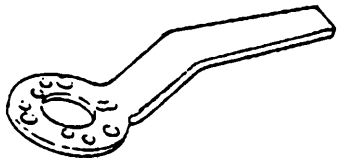

Figure 5-41 Flywheel Tightening Handle
- a. Remove starter pulley (1) by removing three bolts (2).
- b. Install flywheel tightening handle (refer to Figure 5-41) by using starter pulley bolts (2). Use this handle to prevent flywheel (5) from turning while loosening flywheel nut (3).
- c. Remove flywheel end nut (3) and washer (4) from crankshaft (6).